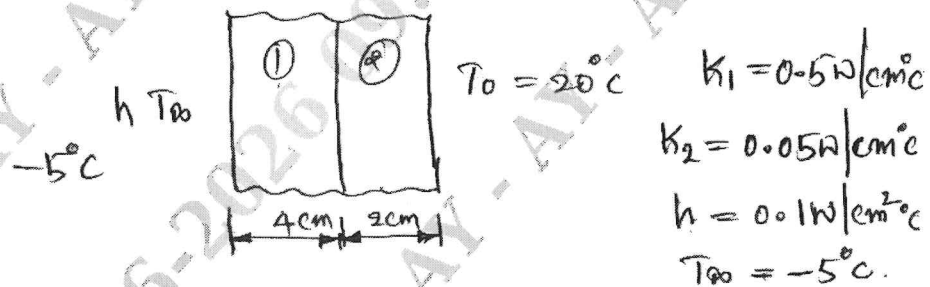

Fig. Q. 8 (b)
- b. A composite wall consists of two materials as shown in figure Q 8 (b). The outer temperature is 20°C and $T_\infty = -5^\circ\text{C}$, $h = 25 \text{ W/m}^2\text{C}$. Determine the temperature distribution.